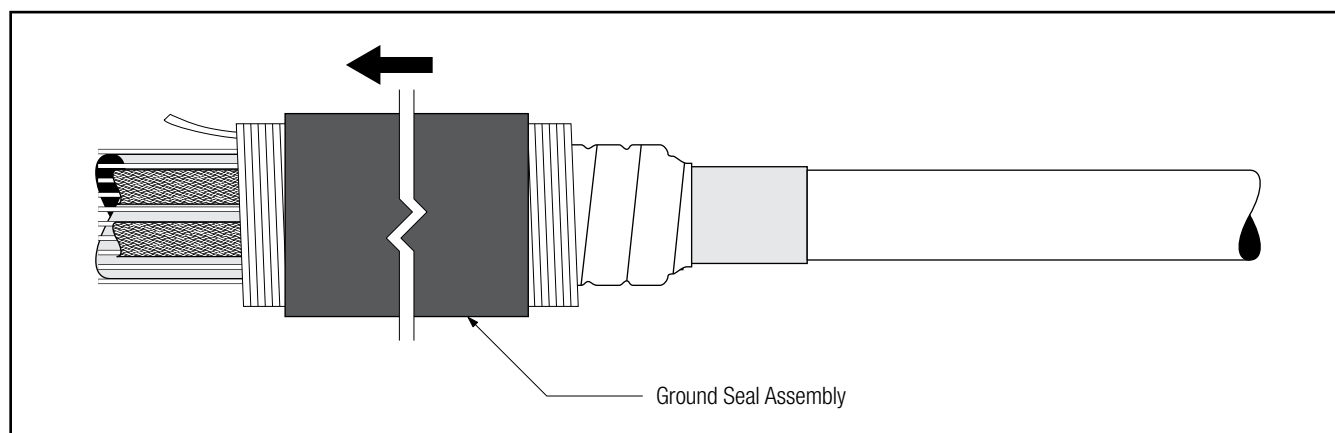

Figure 20
6.1 Slide the ground seal assembly onto the cable jacket, loose core end first. (*Figure 20*)